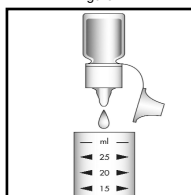

Figure 2
2. Add 10 drops of A-9001 Activator Solution (fig 2). Cap the sample cup and shake it to mix the contents. Wait **4 minutes**.
3. Add 5 drops of A-9000 Neutralizer Solution (fig 2). Cap the sample cup and shake it to mix the contents. Wait **1 minute**.